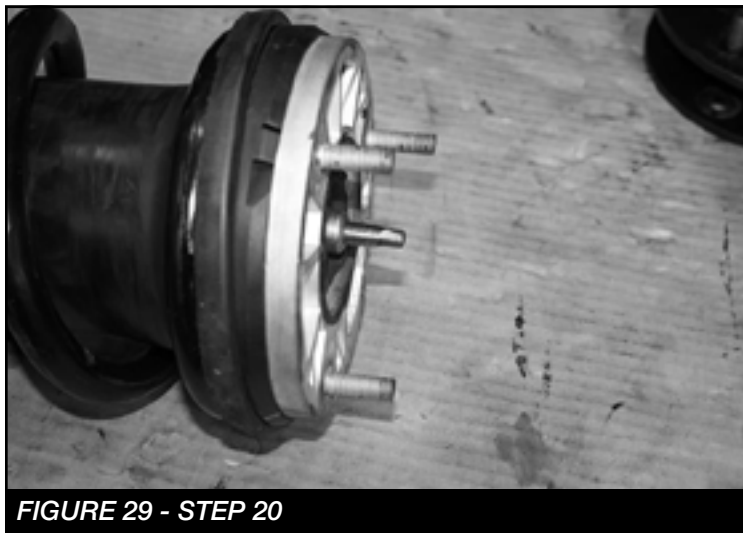

FIGURE 29 - STEP 20
20. Locate the three top cap studs. Measure and mark 1-1/8" from the base of the studs. Using a cut off wheel, cut the excess of the stud off. **SEE FIGURE 29**
SEE FIGURE 29